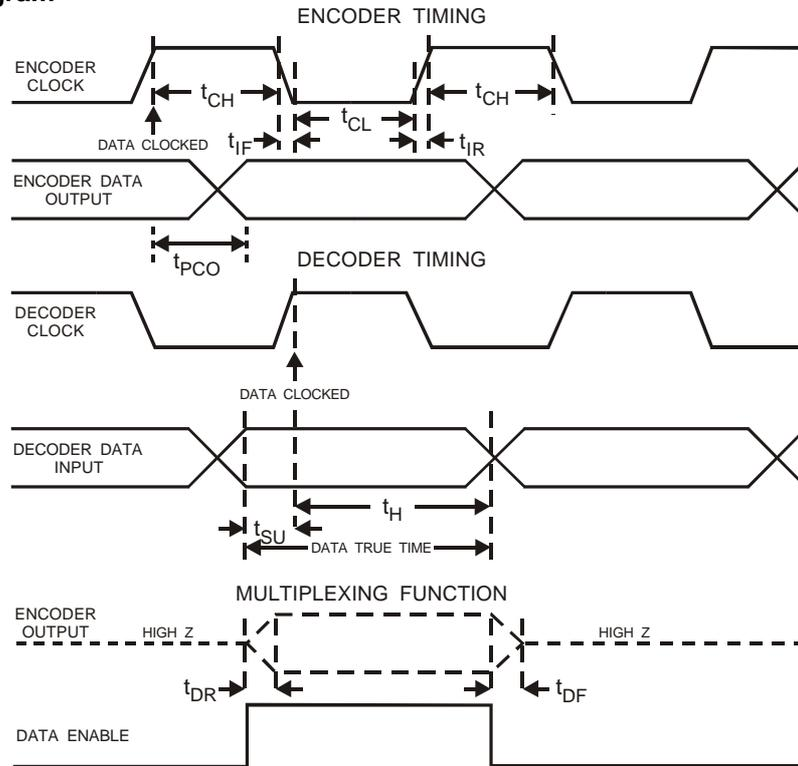

Figure 4 Serial Bus Timing
11. In general, optimum codec performance is achieved when both encoder and decoder Xtal/Clock signals are synchronized. While this is practical in many telecom applications, it may not be so for others such as wireless data links. The CMX639 decoder can generally deliver best performance when its data clock is recovered/derived from the received data stream and applied as an external data clock to the decoder as per the decoder timing depicted in Figure 4. Nonetheless, some Xtal/Clock frequency and data rate combinations are better served by the use of internal clocks. Experimentation with each specific design may provide the best guidance for making this design choice.
| Serial Bus Timing (ref. Figure 4) | Notes | Min. | Typ. | Max. | Units |